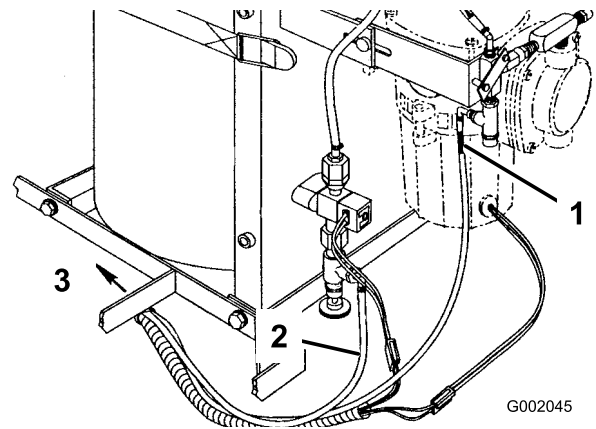

Figure 6
4. Mark a 108 inch supply hose with a black marker at each end (Figure 6).